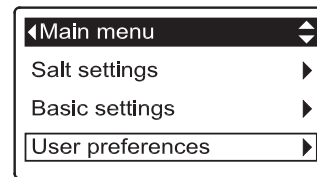

FIG. 47
1. From any of the rolling status screens, press the SELECT (O) button to display the **Main menu**.
2. Press the DOWN (▼) button to scroll through the menu options until **User preferences** is highlighted (See Figure 47).